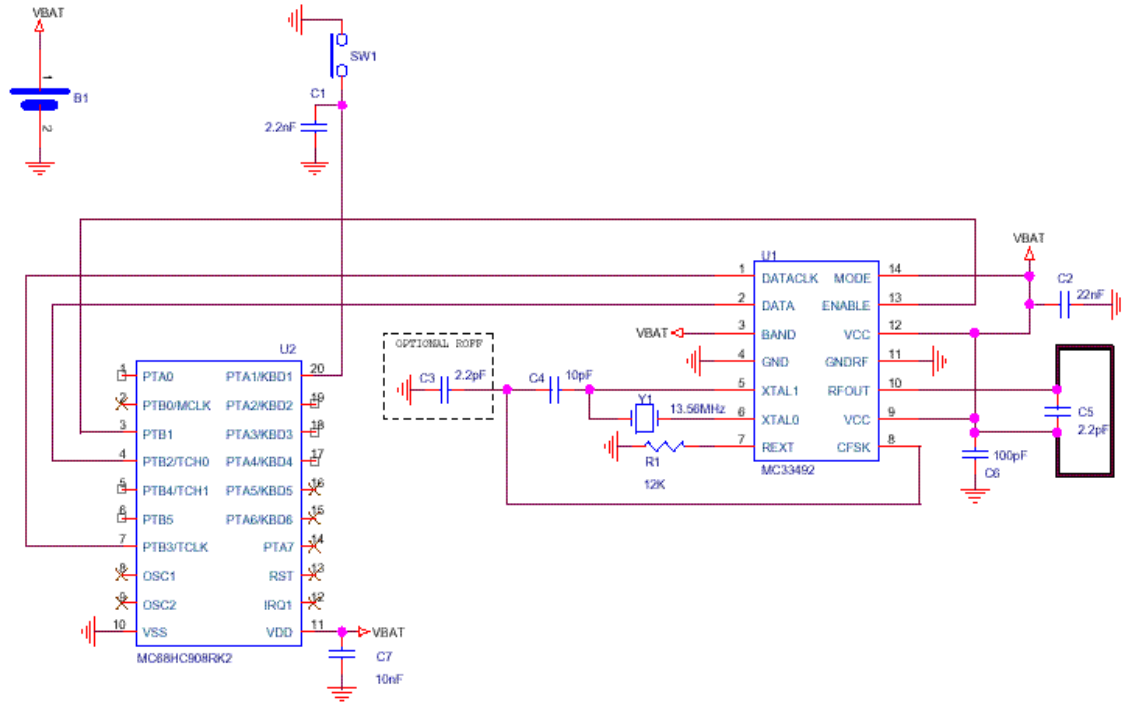

**Figure 14. Application Schematic for FSK Modulation, Serial Configuration, 434 MHz Frequency Band**
Figure 14 shows a complete application schematic using a MC68HC908RK2 microcontroller. FSK modulation is selected,  $f_{\text{carrier}} = 433.92 \text{ MHz}$ .  $C_1$  capacitor can be removed if switch debounce is done by software.
- the external load capacitors (C3, C4 as defined in Figure 14 and Table 9)